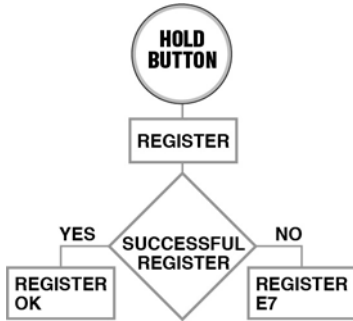

FIG. 3
- The display reads "REGISTER OK" as shown in FIG. 3, page 6 when the TLM is registered with the Pulse software.
If the TLM did not register with the Pulse software the error message "REGISTER E7" displays (see Step 1, FIG. 3).